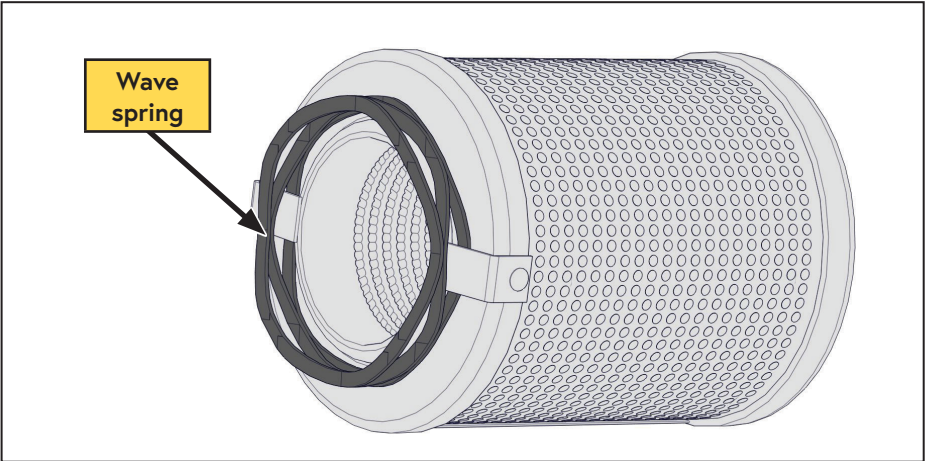

Figure 34 — Install wave spring
- Install the wave spring onto the coalescing element (Figure 34).